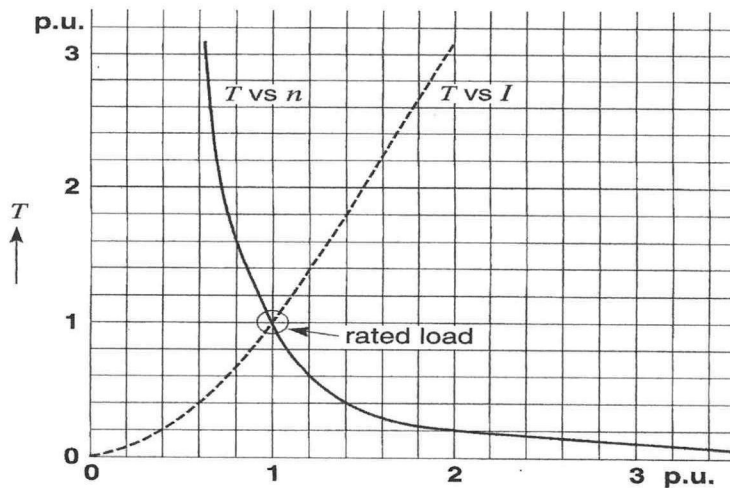

Figure Q1(b)
- Q1** (a) Differentiate any **THREE (3)** types of DC motor by sketching their equivalent circuit diagrams. (6 marks)
- (b) **Figure Q1(b)** shows the torque-speed-current characteristic of a series DC motor. Discuss the condition of this motor when it is loaded. (5 marks)